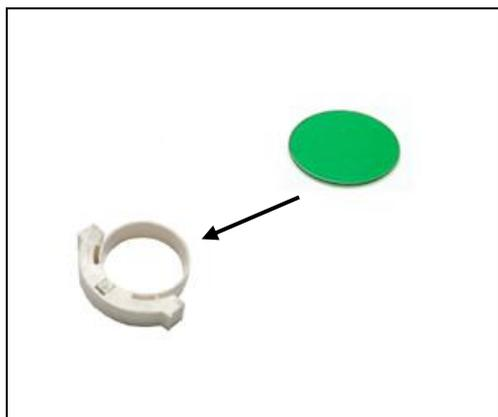

Fig 11
3.1.9 Using color filters (Fig. 11)